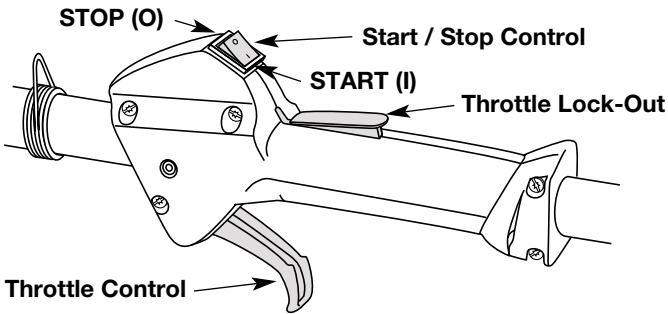

Fig. 21
3. Put the Start/Stop Engine Control in the **START (I)** position (Fig. 21).
6. While pressing the throttle lock-out, squeeze the throttle control to the wide open (full throttle) position (Fig. 21).
1. Put the Start/Stop Engine Control in the **START (I)** position (Fig. 21).
4. While pressing the throttle lock-out, squeeze the throttle control to the wide open (full throttle) position (Fig. 21).
2. To stop the engine, put the Start/Stop Engine Control in the **STOP [O]** position (Fig. 21).